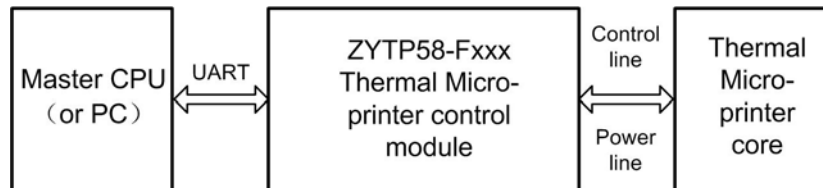

Figure 1-1: How to use ZYTP58-Fxxx
Figure 1-1 demonstrates how to use the ZYTP58-Fxxx series Micro-thermal printer control module:
- ZYTP58-Fxxx drives the Micro-thermal Printer Core for printing by controlling the control line and the power line, as Figure 1-1 and Figure 1-2 shows.